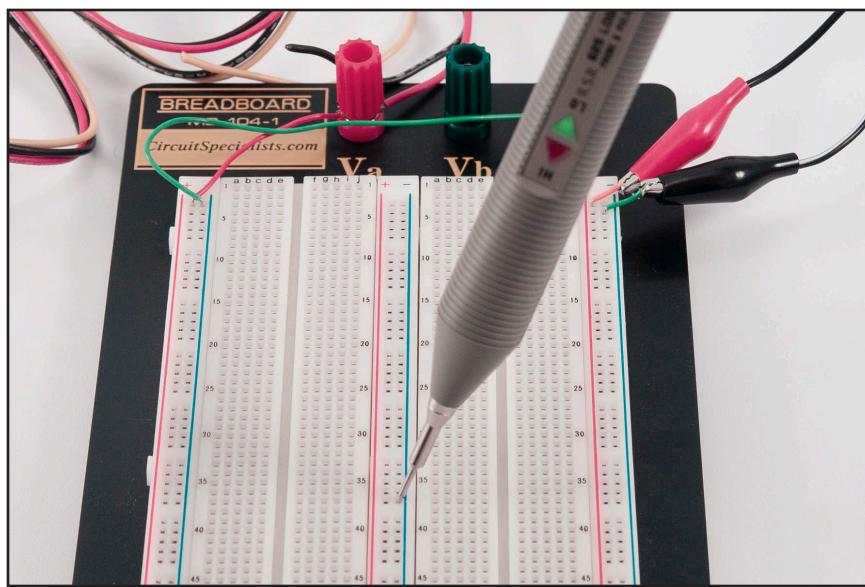

Figure 3.6 Testing with the Logic Probe
4. Repeat step 2 yet another time for the ground sockets; for these, the "LO" light should come on (Figure 3.6). The sockets connected to neither power nor ground should produce no light at all.